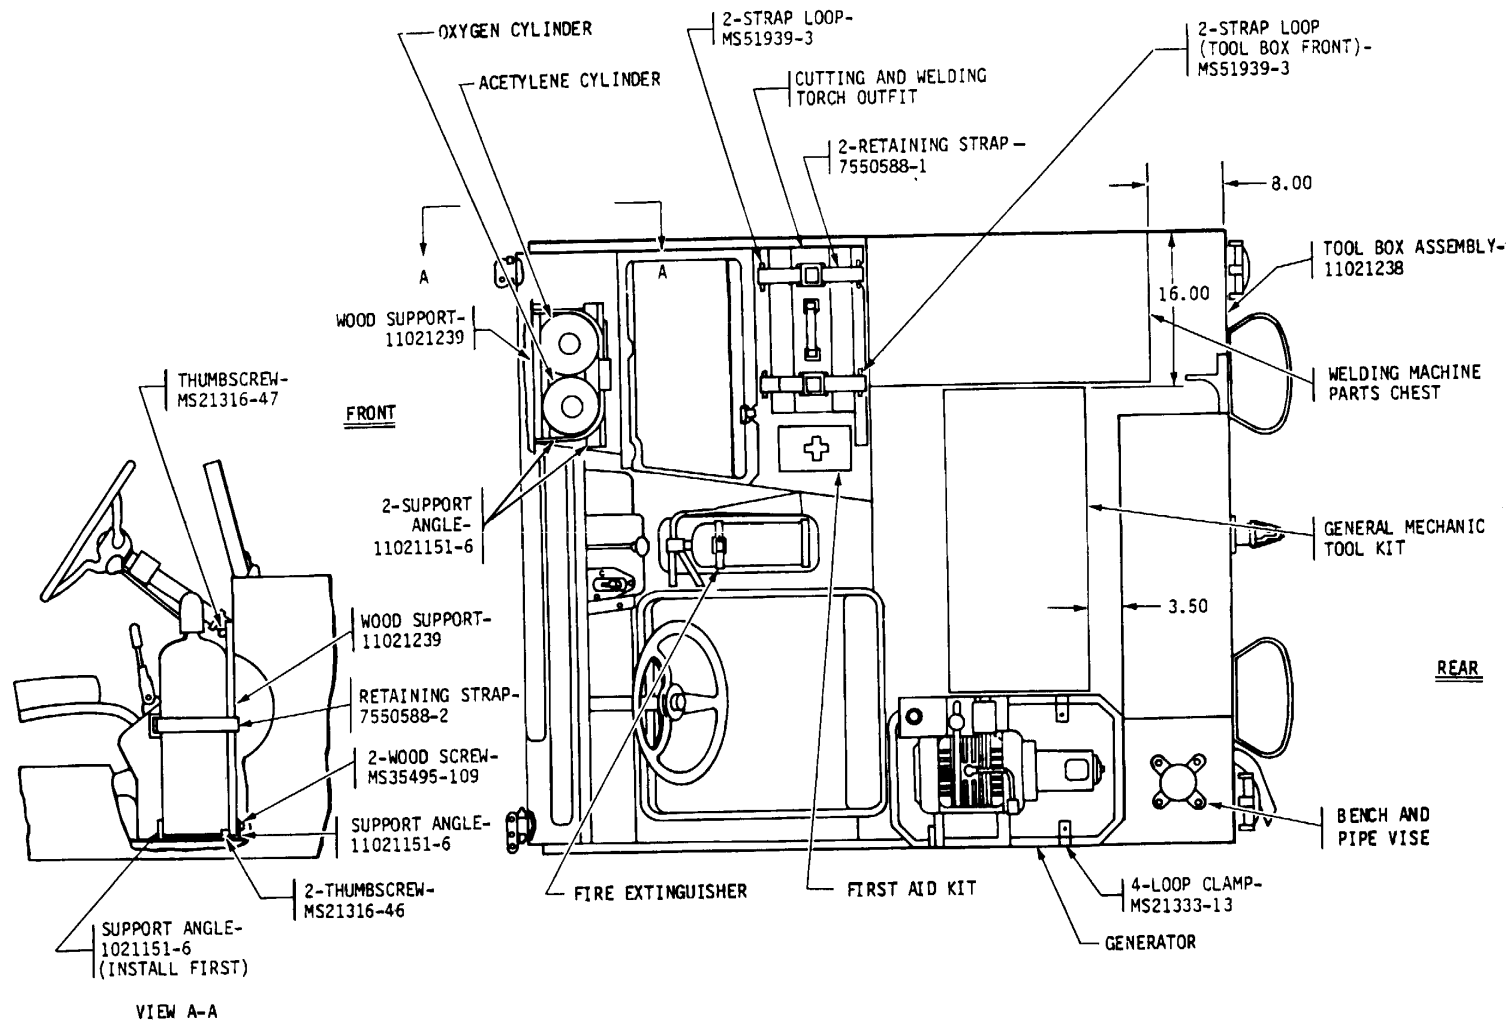
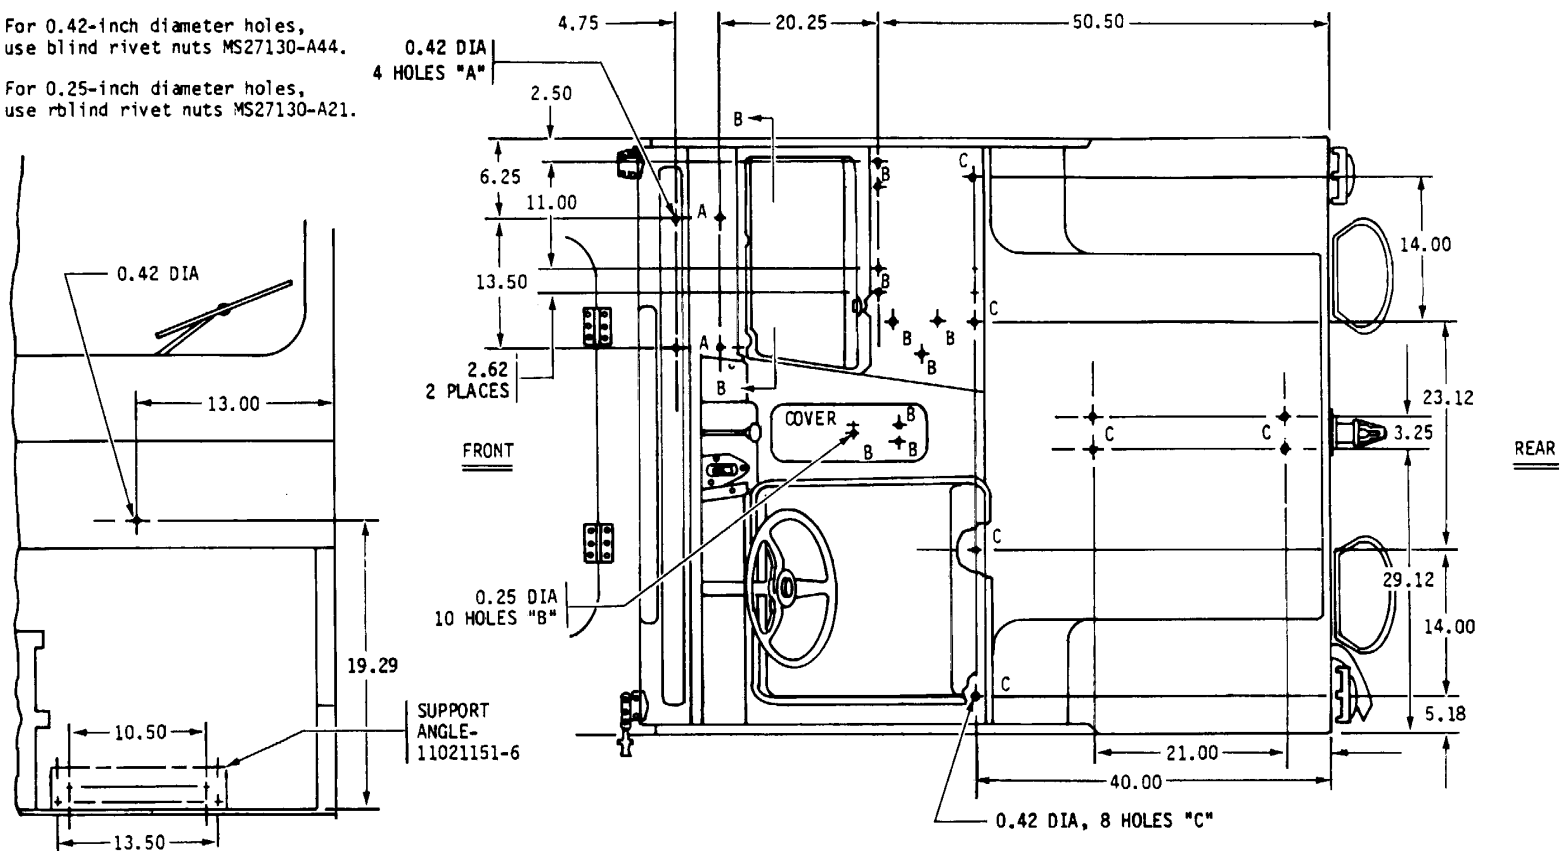
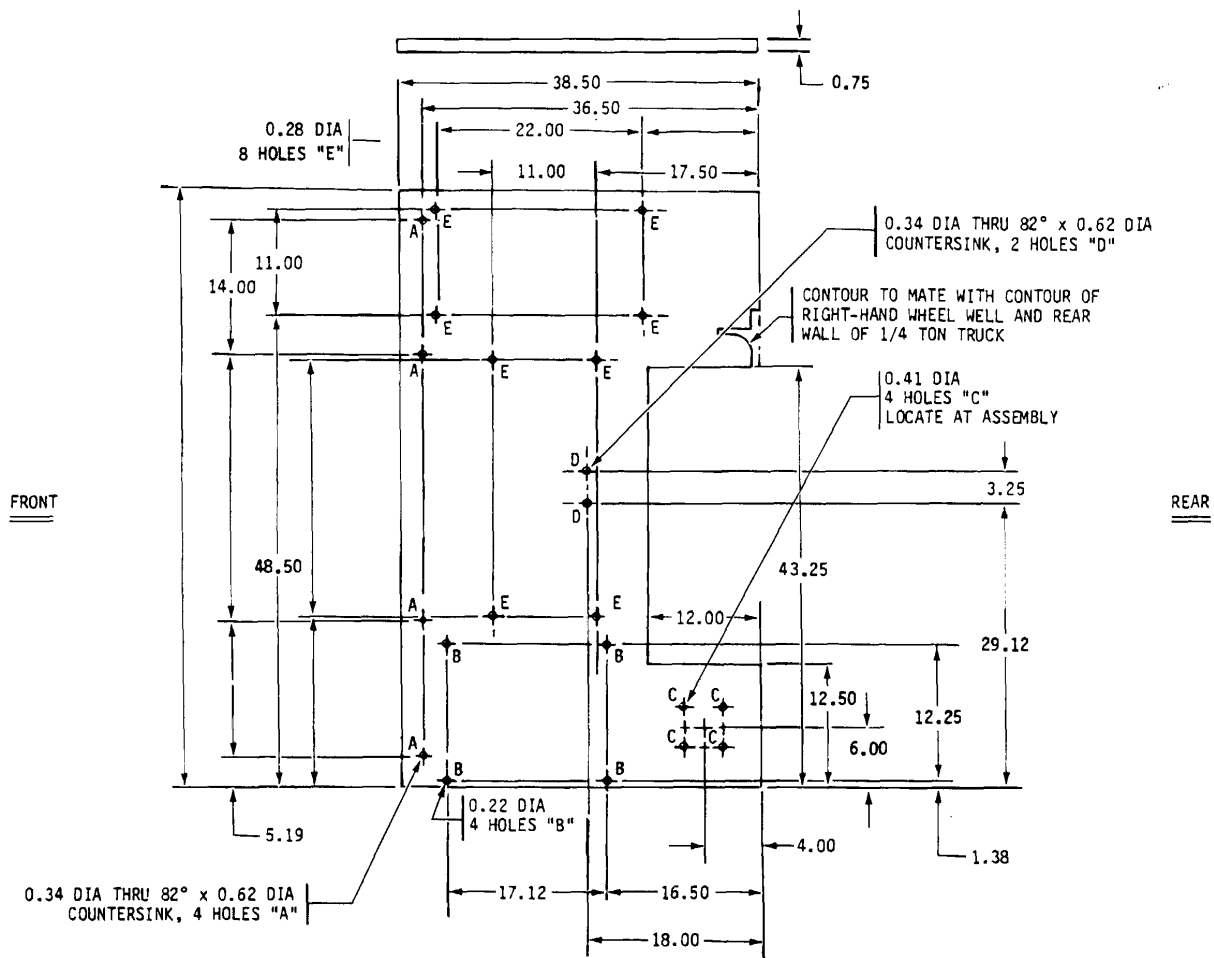
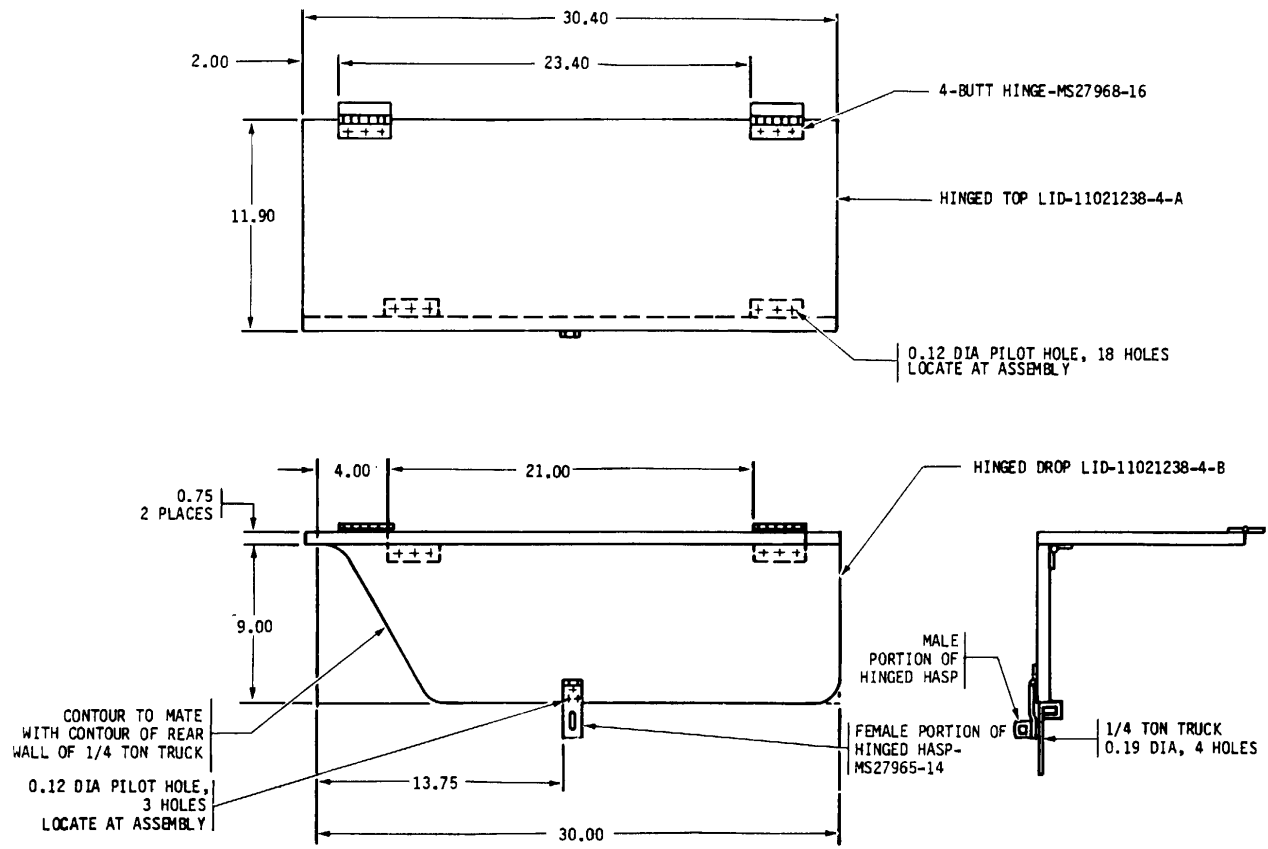

Figure 2. Components to be Installed, M151A2, Top View
Figure 3. Hole Dimensions and Location for Mounted Components, M151A2, Floor Plan.
Figure 5. Dimensions for Tool Box top, 11021238-1.
Figure 8. Dimensions for Hinged Top Lid, 11021238-4-A and Hinged Drop Lid, 11021238-4-B.
Position floor-mounted first aid kit and fire extinguisher as shown in figure 2. Use the equipment mounting holes as template for location of blind rivet nuts in accordance with figure 3.
a. Follow steps (1) and (2) below for installing blind rivet nuts.
(1) Mark and drill ten 0.25-in. diameter holes in floor of 1/4 ton truck in accordance with figure 3. Install ten #10 blind rivet nuts (MS27130-A21).
(2) Mark and drill thirteen 0.42in. diameter holes in floor and dashboard of 1/4 ton truck in accordance with figure 3. Install thirteen 5/16in. blind rivet nuts (MS27130-A44).
b. Follow steps (1) thru (8) below for fabricated items installation.
(4) Position tool box center (11021238-3) and tool box front (11021238-2) over eight installed blind rivet nuts on floor of 1/4 ton truck in accordance with figure 3. Secure tool box center and tool box front, using eight 5/16x 1-1/8-in. hex head capscrews (MS90725-35) and eight 5/16-in. lockwashers (MS35338-45).
(6) Position four butt hinges (MS27968-16) on hinged drop lid (110212384-B) and hinged top lid (11021238-4-A) in accordance with figure 8. Using butt hinges as templates, mark and drill eighteen 0.12-in. diameter pilot holes.
(8) Position hinged hasp (MS2796514) on rear of 1/4 ton truck and hinged drop lid in accordance with figure 8. Using female portion of hinged hasp as a template, mark and drill three 0.12-in. diameter pilot holes in hinged drop lid. Secure female portion of hinged hasp on hinged drop lid, using three #8 x 5/8-in. flat head wood screws (MS3549251). Position male portion of hinged hasp on rear of 1/4 ton truck. Using male portion of hinged hasp as a template, mark and drill four 0.19-in. diameter holes. Secure male portion of hinged hasp, using four #8 x 5/8-in. countersunk head machine screws (MS35190254), four #8 lockwashers (MS35338-42), and four #8 hex nuts (MS35649-282) in accordance with figure 8.
c. Follow steps (1) thru (8) below for equipment installation.
(1) Position support angle (11021151-6) over two installed blind rivet nuts in front floor of 1/4 ton truck closest to passenger area and secure, using two 5/16x 1-1/4-in. hex head capscrews (MS90725-36) and two 5/16-in. lockwashers (MS35338-45) in accordance with figure 2. Assemble wood support (11021239) and support angle (11021151-6), in accordance with figure 2, using two #12 x 3/4-in. round head wood screws (MS35495-109). Position wood support and support angle over three blind rivet nuts. two in
(2) Position generator (6115-00889-1446) on tool box top (11021238-1) in accordance with figure 2. Secure generator, using four 1-in. loop clamps (MS21333-13), four #10 x 1-1/2-in. pan head machine screws (MS35206-269), four 7/32-in. flat washers (MS27183-42), four #10 lockwashers (MS35338-43), and four #10 hex nuts (MS35649-202).
(3) Position and center bench and pipe vise (5120-00-188-1182) on tool box top (11021238-1) in location shown in figures 2 and 5. Using vise base as a template, mark and drill four 0.41-in. diameter holes through tool box top. Secure bench and pipe vise, using four 3-8x 2-1/4-in. hex head capscrews (MS90725-67), four 3/8-in. flat washers (MS27183-13), four 3/8-in. lockwashers (MS35338-46), and four 3/8-in. hex nuts (MS51967-8).
(4) Remove contents of first aid kit (6545-00-922-1200). Mark and drill three 0.22-in. diameter holes in the back of first aid kit. Position in location shown in figure 2 over installed blind rivet nuts in accordance with figure 3. Secure first aid kit, using three #10 x 5/8-in. pan head machine screws (MS35206-264) and three #10 lockwashers (MS35338-43). Reinstall contents of first aid kit.
(5) Position bracket for fire extinguisher (4210-00-555-8837) on floor in accordance with figure 2. Mark and drill three 0.22-in. diameter holes in bracket. Position over installed blind rivet nuts in accordance with figure 3. Secure fire extinguisher, using three #10 x 5/8-in. pan head machine screws (MS35206-264) and three #10 lockwashers (MS35338-43).
(6) In accordance with figure 2, position two strap loops (MS51939-3) over four blind rivet nuts on 1/4 ton truck floor and secure, using four #10 x 7/8-in. countersunk head machine screws (MS35190-274). Position two strap loops (MS51939-3) on back of tool box assembly (11021238) and secure, using four #10 x 5/8-in. flat head wood screws (MS35492-75). Position cutting and welding torch outfit (3433-00-3576311) on 1/4 ton truck in accordance with figure 2. Secure, using two 72in. retaining straps (7550588-1).
(7) Position general mechanic tool kit (5180-00-699-5273) on tool box top in accordance with figure 2. Using tool box top (11021238-1) as a template,
mark and drill four 0.28-in. diameter holes through bottom of general mechanic tool kit in accordance with figure 5. Secure general mechanic tool kit to tool box top, using four 1/4 x 1-1/2-in. hex head capscrews (MS90725-12), four 1/4-in. lockwashers (MS35338-44), four 1/4-in. flat washers (MS27183-9), and four 1/4-in. hex nuts (MS51967-2).
(8) Position welding machine parts chest (3431-00-679-5594) on tool box top in accordance with figure 2. Using tool box top (11021238-1) as a template, mark and drill four 0.28-in. diameter holes through welding machine parts chest bottom in accordance with figure 5. Secure welding machine parts chest to tool box top, using four 1/4 x 1-1/2-in. hex head capscrews (MS9072512), four 1/4-in. lockwashers (MS3533844), four 1/4-in. flat washers (MS271839) , and four 1/4-in. hex nuts (MS519672).